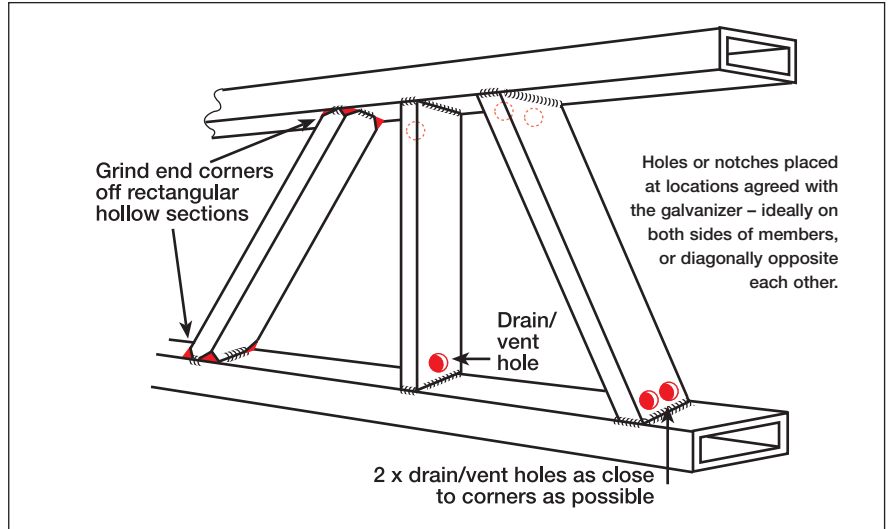
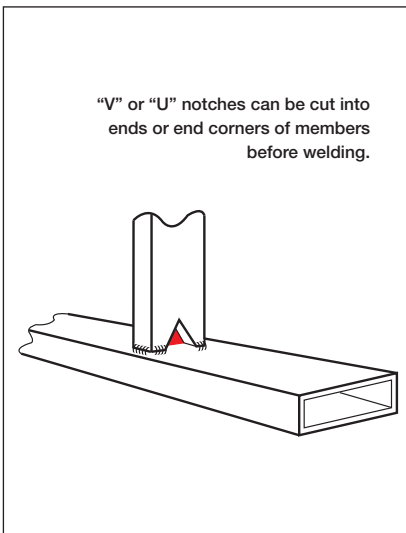

Figure 7.
Figure 8.
- With hollow sections sealed at the ends, holes should be provided, again diagonally opposite one another, as near as possible to the ends of the hollow member (figure 7). In some cases it may be more economical to provide "V" or "U" shaped notches (figure 8) in the ends of the tubes, or to grind corners off rectangular hollow sections. These procedures will provide ideal means for venting and draining.